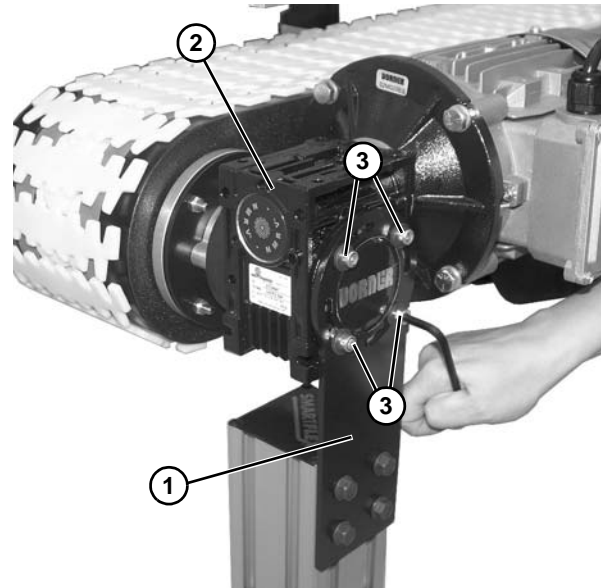

Figure 5
1. Install gearmotor mount (Figure 5, item 1) onto motor (Figure 5, item 2) with four socket head screws (Figure 5, item 3).